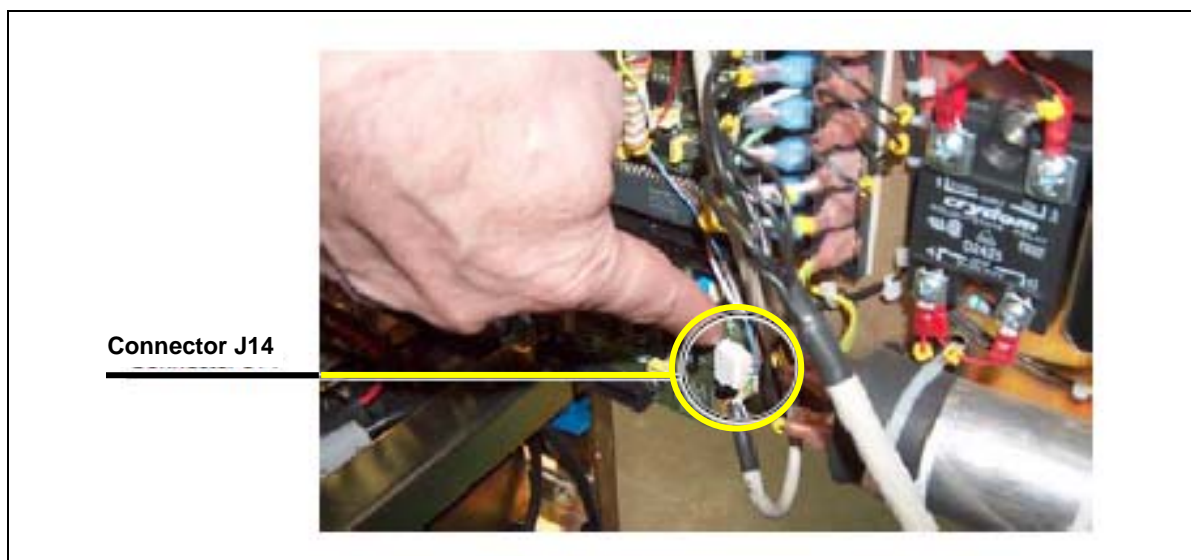

Figure 10
- (1) Switch SW3 located at the column base, disconnect J14-3 and isolate it.
- (2) Connect wire marked *Expose* to J14-3.
- (3) Route the *Rotor* wire as shown figure 10.
- (4) Cut the terminal and perform a jumper with SW3-4.
- (1) Disconnect J14-2 and J14-3 and isolate both wires.
- (2) Connect wire marked *Rotor* of the remote control interface cable in J14-2 and the wire marked *Expose* in J14-3. See figure 10.